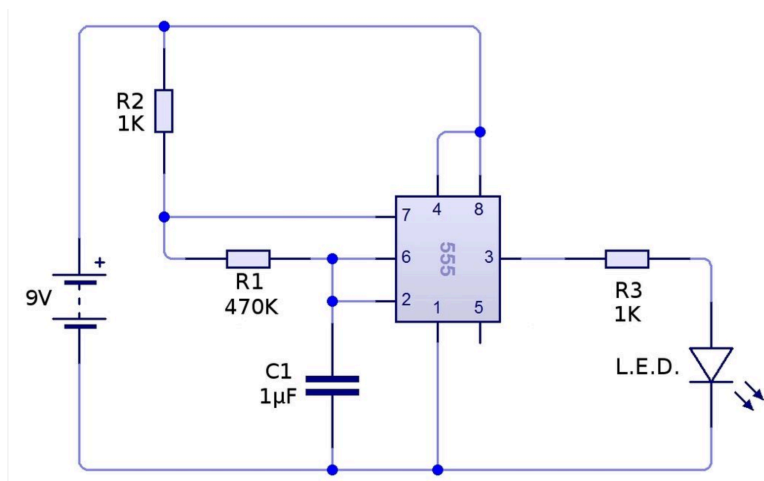

Figure 06.3: 555 Timer circuit diagram (Trilesto, 2018).
We will be building the circuit diagram of Figure 06.3. This circuit charges, then discharges the capacitor C_1 . The capacitor's voltage is applied to both pins 2 and 6, which control the flip-flop, but which are compared to different voltages. So the capacitor first charges up enough to trigger the output (3, which flows through the LED (through R_3 , which limits current). Once the capacitor charges up to initiate the reset, the LED turns off and the
- 3. Lay out the circuit in accordance with the circuit diagram of Figure 06.3 on a prototyping board. Use the $1\ \mu\text{F}$ capacitor, but connect it with an auxiliary breadboard.